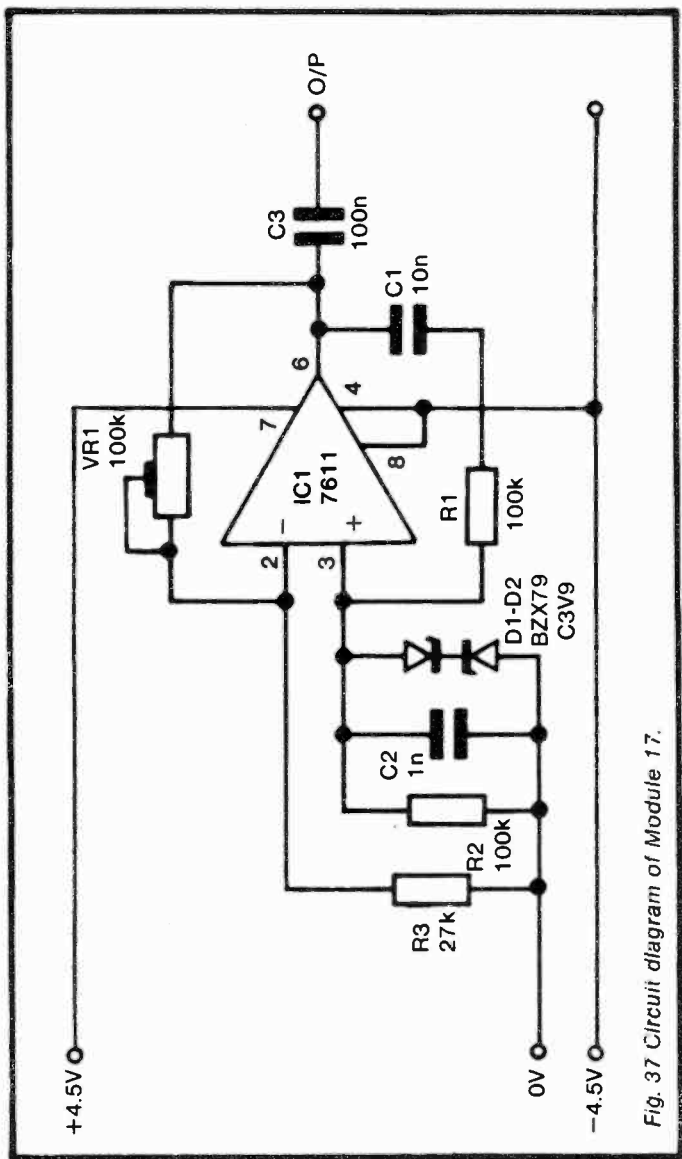

Fig. 37 Circuit diagram of Module 17.
**Circuit diagram:** see Figure 37.